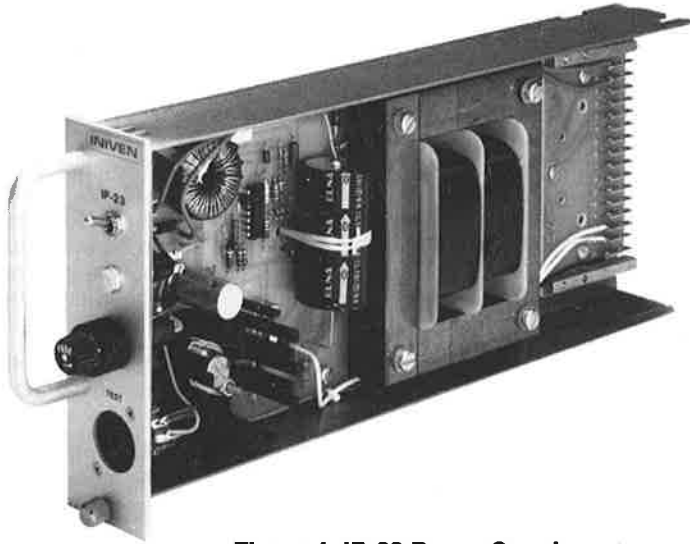

Figure 1. IP-23 Power Supply
1.1 The INIVEN™ IP-23/IP-23R Power Supply (see Figure 1) is a "switching" type voltage regulated unit that delivers 12 Vdc at a maximum 2300mA. This unit is intended for use as a power supply for tone telemetry units.